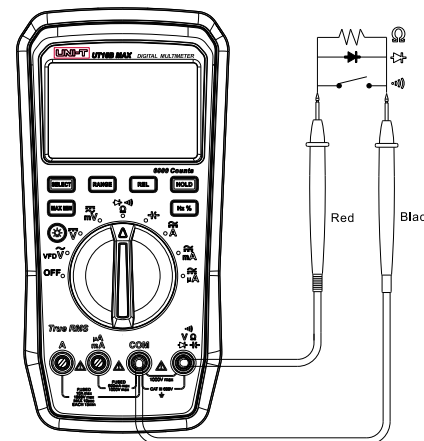

Figure 5
3. Resistance/Continuity Measurement (Figure 5)
4. Diode Measurement (Figure 5)